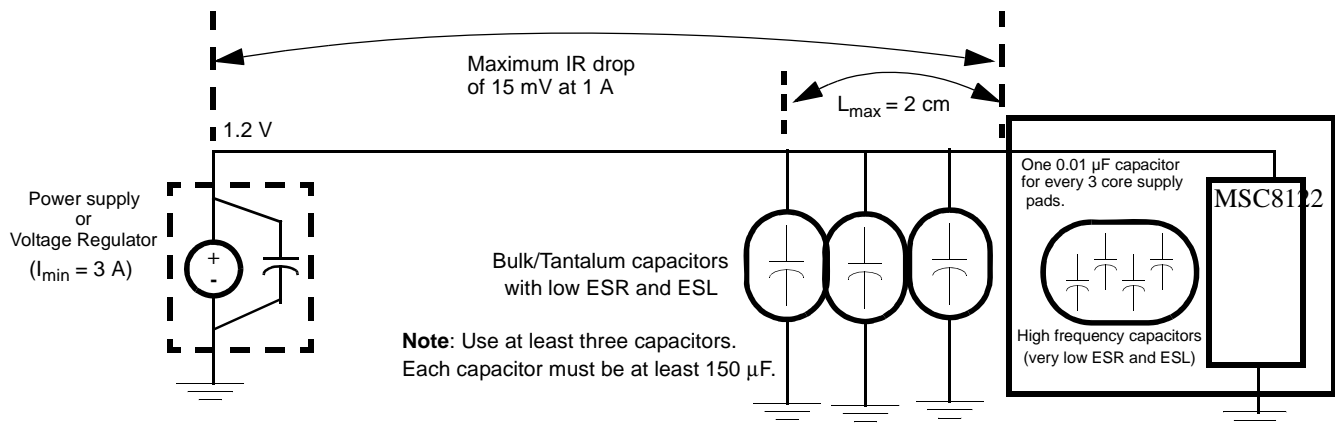

Figure 33. Core Power Supply Decoupling
Figure 33 shows the recommended power decoupling circuit for the core power supply. The voltage regulator and the decoupling capacitors should supply the required device current without any drop in voltage on the device pins. The voltage on the package pins should not drop below the minimum specified voltage level even for a very short spikes. This can be achieved by using the following guidelines:
- Decouple the supply using low-ESR capacitors mounted as close as possible to the socket. **Figure 33** shows three capacitors in parallel to reduce the resistance. Three capacitors is a recommended minimum number. If possible, mount at least one of the capacitors directly below the MSC8122 device.